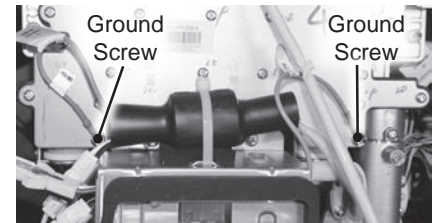

Figure 82 - Removing green ground wires
- 6 Locate both green ground wires attached to gas manifold cover. Remove the two screws securing the green ground wires and place them aside in a safe place for reinstallation. See Figure 82.